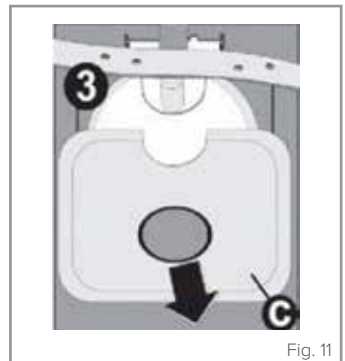

Fig. 11
4. Remove the base filter from the dishwasher compartment (Fig. 11).